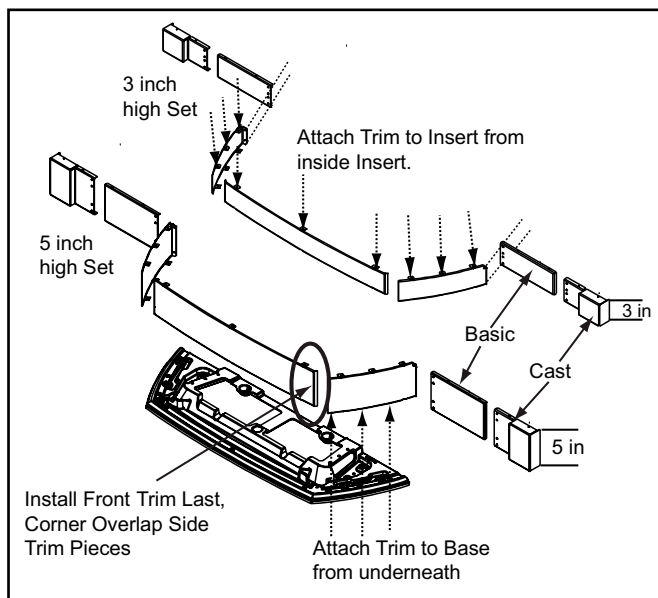

Figure 19.2
4. Lay the cast bottom face up. Attach the 2 sides **FIRST** and then the front piece. **Figure 19.2.**